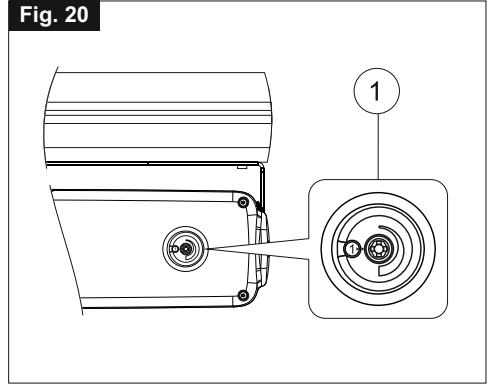

Fig. 21
- 2) Fig. 21- With a pencil draw the centre line "Y" of the window frame;